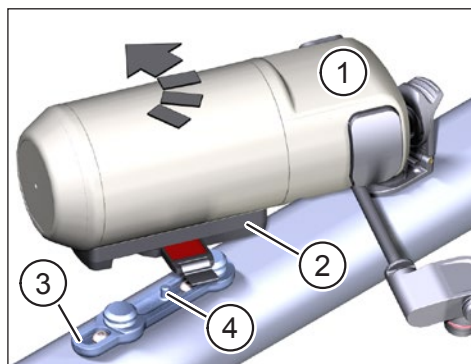

Fig. 4: Insert Range Extender
- ▶ Place the Range Extender (Pos. 1 in Fig. 4) with the fastened FIDLOCK® Force Connector (Pos. 2 in Fig. 4) diagonally onto the FIDLOCK® Bike Base (Pos. 3 in Fig. 4). The pin (Pos. 4 in Fig. 4) on the FIDLOCK® Bike Base must slide into the corresponding socket in the FIDLOCK® Force Connector when it is put on. The magnets support the attachment and the Range Extender should automatically lock into place with an audible click.